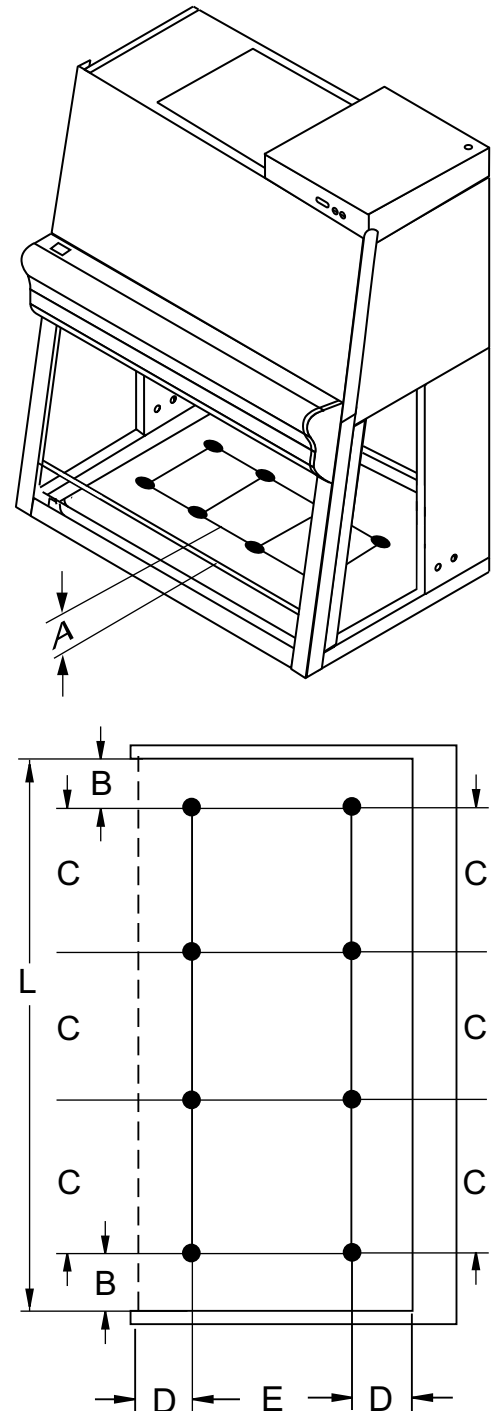

Fig. A8,
**Fig. A8:** The device is operated with a uniform displacement air-flow. Therefore, the measured values at the individual measuring points must be within 20 % of the average value. The test area above the work surface consists of a rectangular grid that encloses a minimum of 2 measuring rows with 4 measuring points per row: